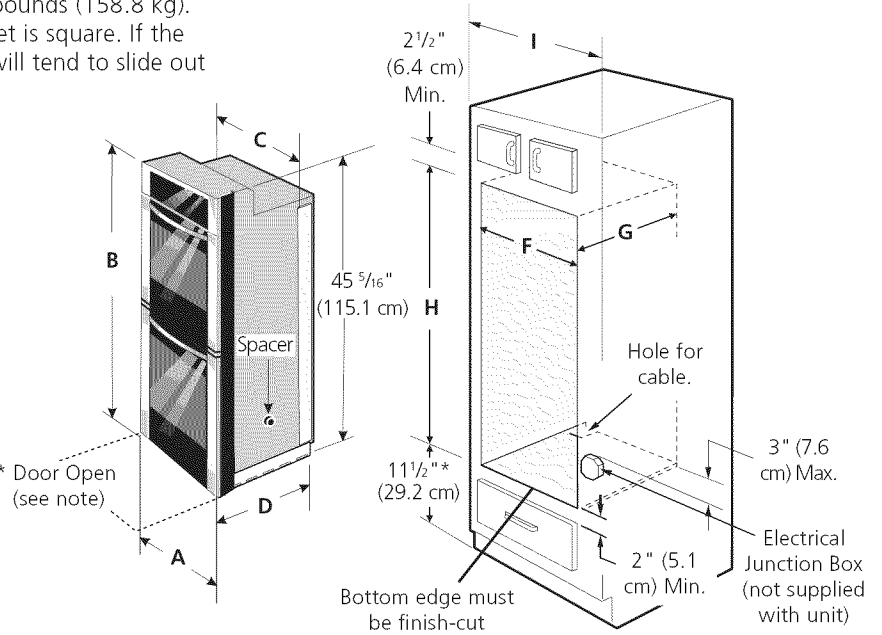

Figure 1
Refer to figure 1 for the dimensions applicable to your appliance, and the space necessary to receive the combination oven. The oven support surface may be solid plywood or similar material, however the surface must be leveled from side to side and from front to rear.
2. These appliances should be connected to the fused disconnect (or circuit breaker) box through flexible armored or nonmetallic sheathed cable. The flexible armored cable extending from the appliance should be connected directly to the junction box. The junction box should be located as shown in Figure 1 and with as much slack as possible remaining in the cable between the box and the appliance, so it can be moved if servicing is ever necessary.
**⚠ CAUTION** In cold weather shipping and storage conditions, make sure that oven is in final location at least three (3) hours before switching on power. Switching on power while oven is still cold may damage the oven controls.